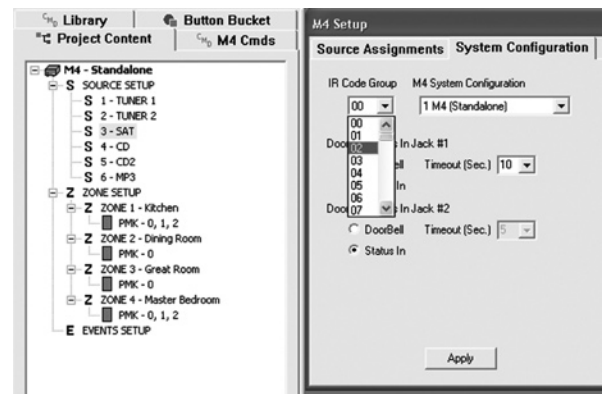

Figure 24 Changing the IR Code Group Number
- Select a different **IR Code Group** number (i.e., 02 instead of 00). Click **Apply**. Refer to Figure 24.